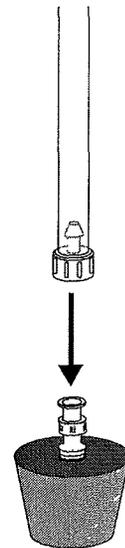

Figure 3
12. When incubation has finished, connect the free-end of the plastic tubing to the connector in the rubber stopper as shown in Figure 3.